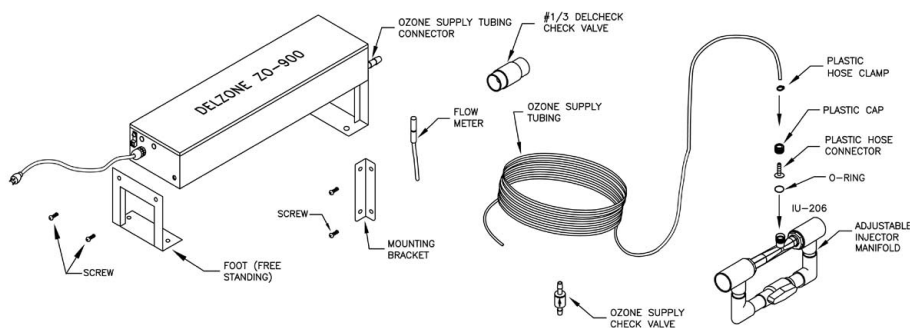
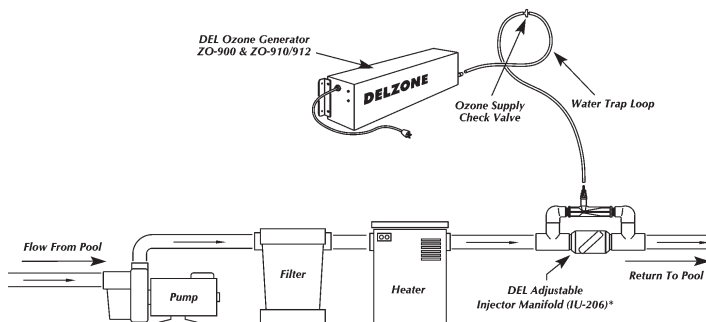
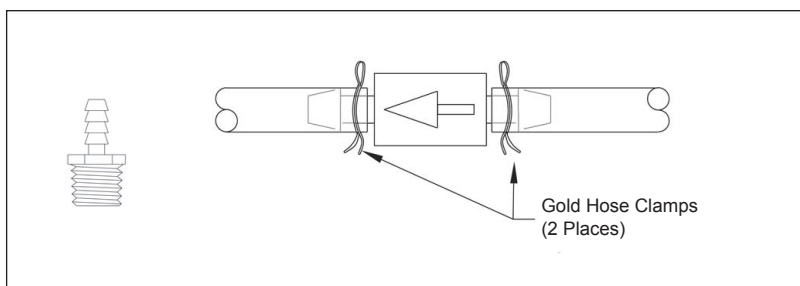

Figure 1: Ozone Generator and Parts
Figure 2: Installation Diagram
Figure 4: Check Valve
6. A pressure wire connector is provided on the outside of the unit to permit connection to a minimum No. 8 AWG (8.4 mm²) solid bonding conductor between this point and any metal equipment, metal enclosures of electrical equipment, metal water pipe, or conduit within five (5) feet (1.5m) of the unit as needed to comply with local requirements. Install at least 5 feet (1.5m) from the inside wall of the pool and one foot above the maximum water level to prevent water from contacting electrical equipment using non-metallic tubing. This product is not intended for use under the skirt of a spa or hot tub.
7. The ZO-900 must be installed in an outdoor location, or indoors in a forced air ventilated room. Install so that the orientation is as shown in Figure 1. This will provide water drainage of the generator to protect electrical components.
Unpack the DELZONE unit and become familiar with it (Figure 1).
Attach mounting brackets to the ZO-900 with provided screws as shown on Figure 1. Find a suitable location to install the ZO-900. It cannot be accessible to anyone inside the pool and must be mounted in an upright position as shown in Figure 2. A second set of brackets (indicated as wall mounting brackets, located in the parts bag) is provided for optional wall mounting indoors only.
The ZO-900 should be mounted **above** the water line if possible. If this is not possible, the ozone supply tubing **must** be routed above the water line with a Hartford Loop (water trap; Figure 2) between the generator and the pool. In either case, the ozone supply check valve provided must be installed in the ozone supply tubing between the generator and the injector. See Figure 4 for further installation information on the ozone supply check valve.
Turn the handle on the injector manifold counter-clockwise all the way until the ball valve is wide open. Locate an appropriate section of the return line, hold the injector manifold against the pipe and mark the length. Subtract 2- 2/3" from the overall length. Mark this point, and cut out the section (about 12- 1/3"). Install the injector manifold with PVC cement. Be very careful to observe and follow the correct water flow direction (Figure 2). The injector manifold can be installed in either a vertical or horizontal position in the return line.
NOTE: If the pool equipment is located above the water level of the pool, you must install the clear PVC DELCheck™ 1/3# check valve as shown in Figure 2.
Locate the plastic hose connector, wrap 3 layers of teflon tape on the threads (do not use thread sealant), and install it hand tight into 1/2" female pipe thread fitting of the **DEL Adjustable Injector Manifold**. Tighten the plastic hose connector 1/2 turn with a wrench. Locate the flowmeter installed toward one end of the ozone supply tubing and secure this end of the tubing to the barb end of the plastic hose connector with a supplied plastic hose clamp as shown in Figure 1. Locate the ozone supply check valve and install it into ozone supply tubing by cutting tubing and securing it on the both ends of the check valve with plastic hose clamps as shown in Figure 4.
NOTE: Be sure the beveled side of the ozone supply check valve is pointing toward the direction of the injector (Figure 4).
To make a Hartford Loop, simply coil the tubing into a complete circle about 6" diameter (Figure 2), and fasten it above the water line. The Hartford Loop will act as a water trap to prevent water from running back to the generator in case the check valve fails. The supplied plastic check valve should be installed in the ozone supply tubing near the loop, between the generator and the loop, and secured with plastic hose clamps (Figure 2). *Be sure that the beveled side of the check valve points in the direction of the injector.* Your installation is now complete. The DELZONE ZO-900 will automatically inject ozone into the pool water to keep it clean and sanitized.